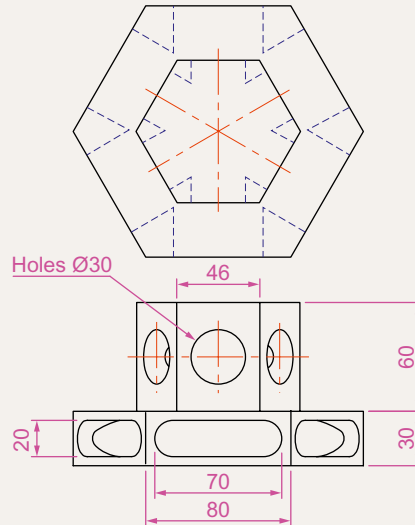

Fig. 17.35 Exercise 2 – details of shapes and sizes
2. The two-view projection (Fig. 17.35) shows a stand consisting of two hexagonal prisms. Circular holes have been cut right through each face of the smaller hexagonal prism and rectangular holes with rounded ends have been cut right through the faces of the larger.